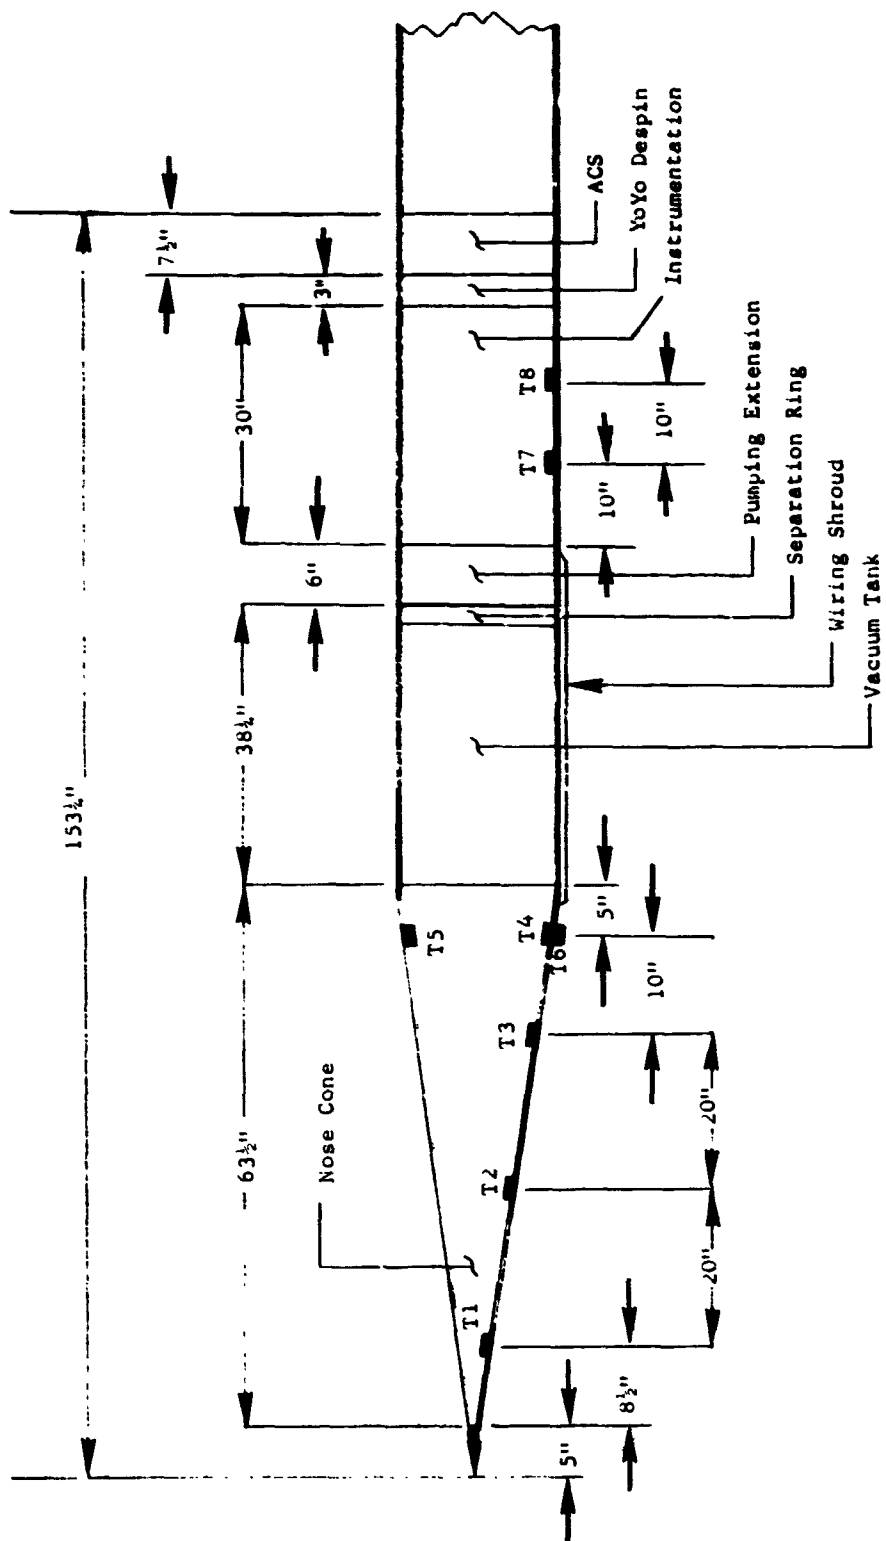

Figure 27. Temperature Sensor Locations
**Figure 27 shows the location of the temperature instrumentation transducers in the vehicle.**